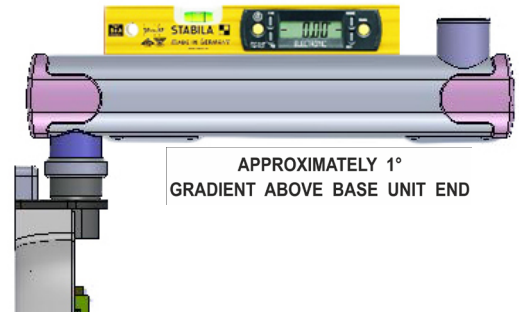

Figure 75
- Check and confirm the level of the straight-arm using spirit level by rotating to all directions as shown in Figure 75.